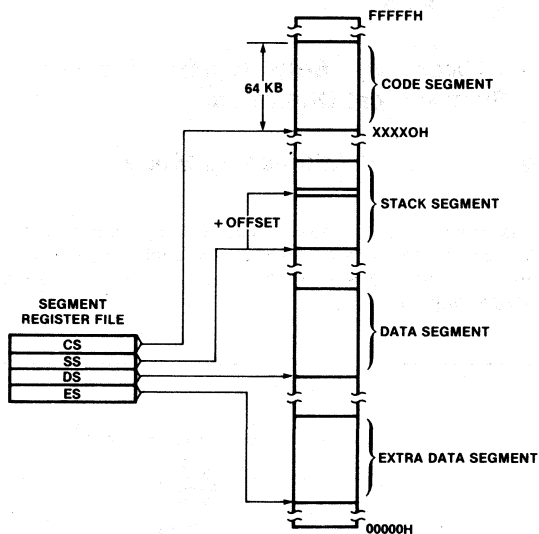

Figure 3a. Memory Organization
The processor provides a 20-bit address to memory which locates the byte being referenced. The memory is logically organized as a linear array of 1 million bytes, addressed as 00000(H) to FFFFF(H). The memory can be further logically divided into code, data, alternate data, and stack segments of up to 64K bytes each, with each segment falling on 16-byte boundaries. (See Figure 3a.)